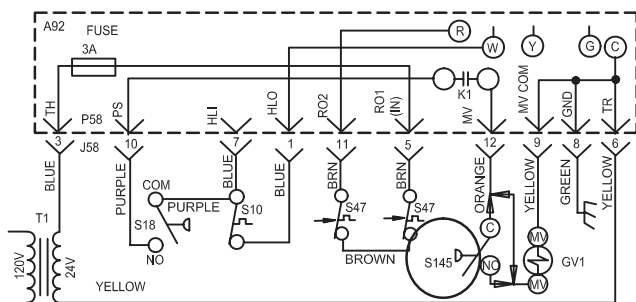

FIGURE 6
- 10 - Thread pressure switch (S145) to fitting 2 to 3 turns past hand tight, then wire as shown in figure 6.